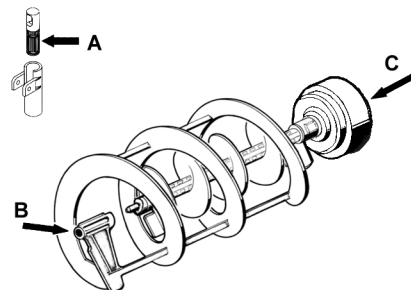

figure 12
- 2 - Lubricate faucet piston, inside auger and outer spiral (see points A, B and C of figure 12) only with the grease supplied by the manufacturer or other food grade approved lubricant.